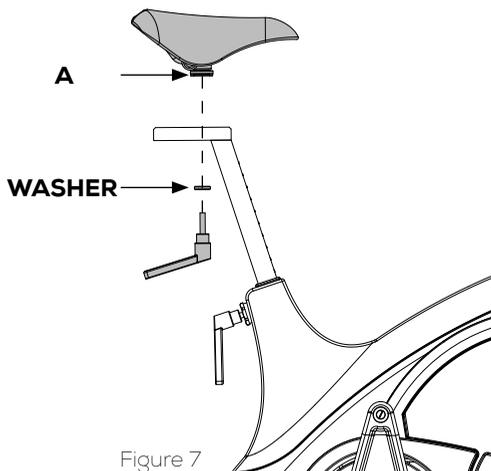

Figure 7
- 2) Secure the saddle with the remaining adjustment handle, see figure 7.
To fasten the saddle to the adaptor and adjust the tilt of the saddle, use a 14 mm wrench on the bolt marked with an A on figure 7.